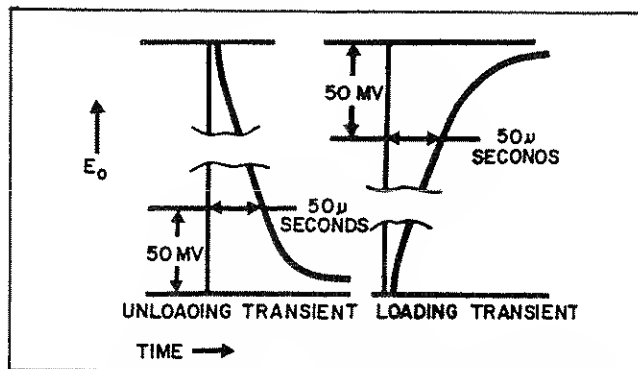

Figure 5-2. Transient Recovery Waveform Diagram
e. Recovery time on the oscilloscope display should not exceed 50 $\mu$ s as shown in Figure 5-2.